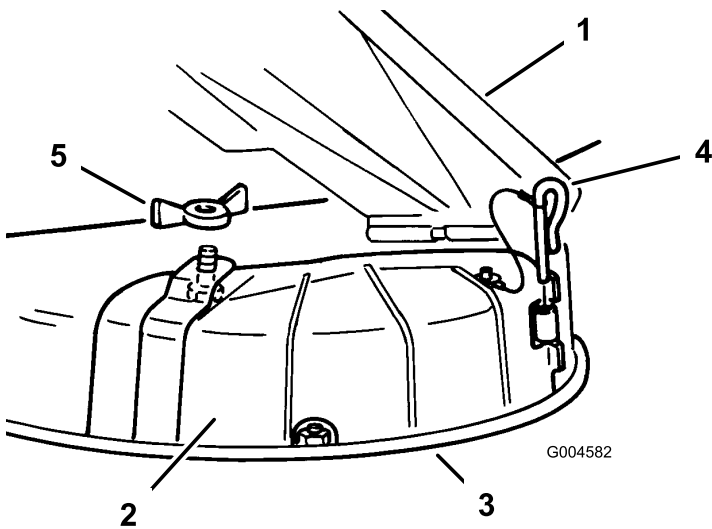

Figure 25
3. Lift the grass deflector and place the discharge cover over the opening onto the lower lip of the mower and slide it into the front hinge (Figure 25).
- Slide the hinge pin through the hinge (Figure 25).
- Secure the discharge cover to the mower with the wing nut (Figure 25).